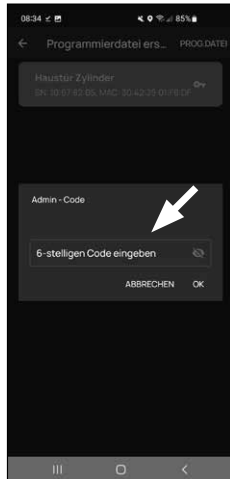

Fig. 3
- 4 Here you will be asked to verify yourself with your administrator code. Enter the code and confirm with "OK" (Fig. 3).